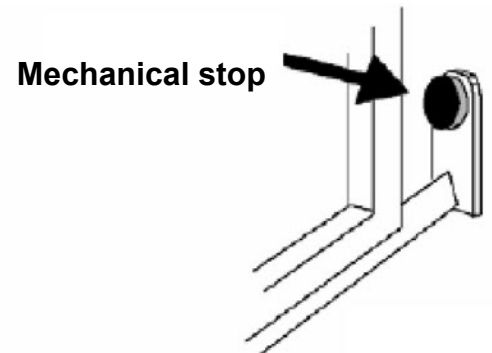
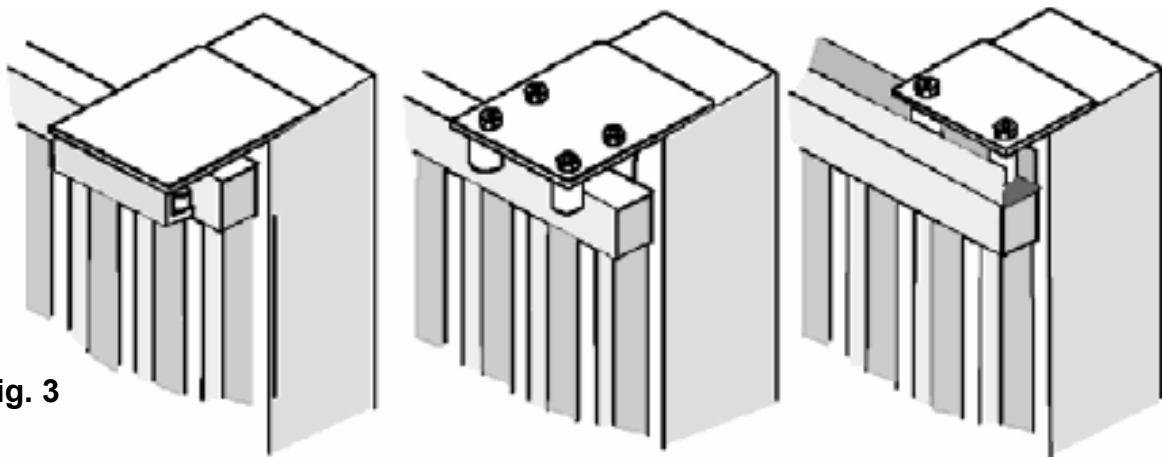

Fig. 2
Fig. 3
- Also check that the runner on the ground (**Fig. 1**) is not deformed, is perfectly level and that the mechanical stop is present on opening (**Fig. 2**) in order to **prevent** the gate from going beyond the upper runners (**Fig. 3**)
- Check the upper runner (**see Fig. 3**) is firm and the gate slides freely.
Position the operator and fasten it with the bolts provided. **A** (Fig.2).
Fasten the rack to the gate firmly, leaving a distance of between 2 and 3 mm from the motor pinion (Fig.3).